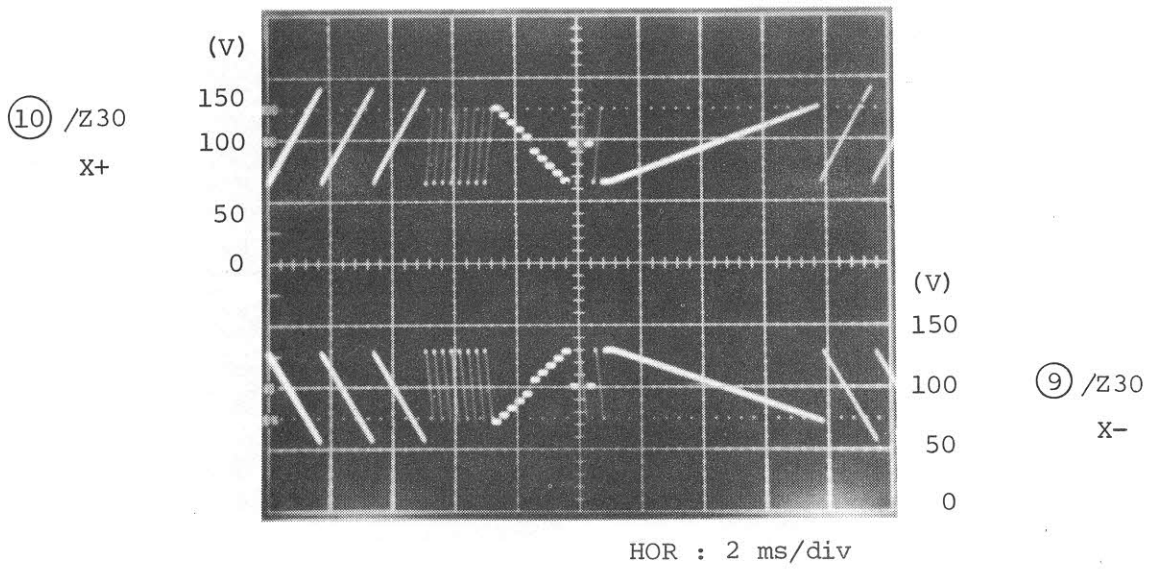

Fig. 5-90 X-AMP OUTPUT
7.	Confirm that the drive signals of the two X-Y deflection plates at checkpoints ⑨ to ⑫ are as shown in Fig. 5-90 and 5-91. If the drive signals are abnormal, check the Y and X amplifier inputs of J2-2 and J2-8, and check whether a correct signal is input from the Z27 display control. A normal input waveform with the power ON and in the reset state is shown in Fig. 5-75 (XOUT and YOUT waveforms of Z27).